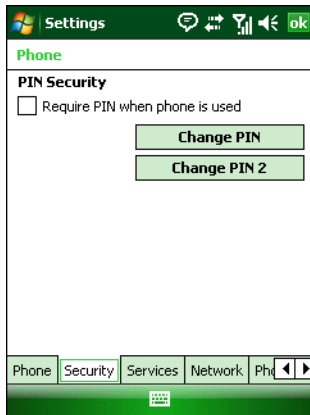

Figure 5-8 Security Tab
1. From the **Security** tab (Figure 5-8), select the **Require PIN when phone is used** check box under **Security**.
1. From the **Security** tab (Figure 5-8), tap **Change PIN**.
1. From the **Security** tab (*Figure 5-8*), deselect the **Require PIN when phone is used** check box.